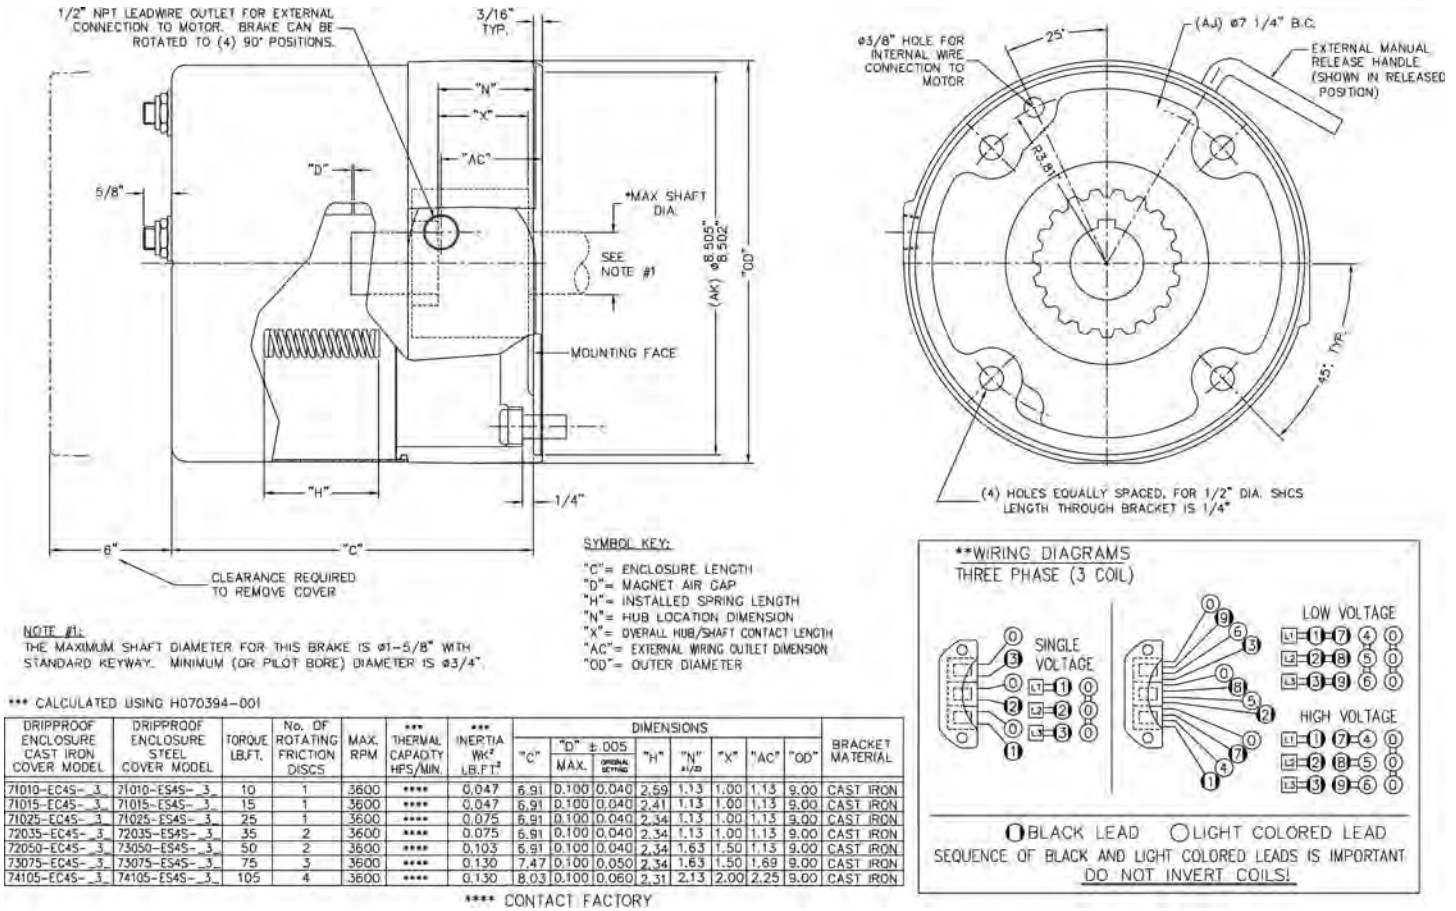

Figure 1 - Brake Outline
(See Figures 1, & 2, Table 1)
1. Remove hub (99) from brake and position on motor shaft with key according to dimension "N" per figure 1. Stamped part number on hub should face away from motor. Tighten hub set screws with 18 lb.ft. torque.
2. Remove temporary cover nut and cover (67). Set cover aside. Discard temporary nut.
4. Bolt brake to motor "C" face with four socket head cap screws. See Figure 1 to help in determining proper bolt length. Final bolt thread pitch, length and mounting torque is dependent on the material and depth of the threaded holes in the mounting face.
5. Connect coil leads per appropriate wiring diagram in Figure 1 and replace cover (67).
6. Use provided nylon locking nuts (71) to secure cover (67).
Before air gap "D" reaches .100", adjustment is required. Any delay in adjusting the magnet air gap will result in eventual loss of torque. Refer to Fig. 1, 2 & 3.
The magnetic disc brake is factory set for rated static torque. The brake can be adjusted to reduce torque which increases stopping time. Do not attempt to adjust brake for higher torque, as this will cause premature coil burnout. (Refer to Fig. 1 & 2)
5. **Re-assembly of electromagnet assembly (15) Refer to Fig. 1 & 2.** Reinstall pressure plate (32) by rotating clockwise to engage both torque spring bolts (28) into slots in brake bracket (1). Replace all nuts, washers, and springs (42, 43, & 44). Nut (44) on the pivot post (17) should be adjusted, so the distance from the bottom of the pressure plate (32) to the top of the brake bracket (1) is 7/16". Reinstall magnet assembly (50A) and install nuts and washers (59, 60, & 61). Nut (61) should be torqued to 20 lb-ft.
7. Reset spring height according to brake model number in Fig.1 from the top of the spring (42) to the bottom of the pressure plate (32).
2. Remove cover locknuts/seals (70 & 71) and cover (67).
4. Replace with new magnet assembly (50A) and install nuts and washers (59, 60, & 61). Nut (61) should be torqued to 20 lb-ft.
5. Place coil lead wires around mounting bracket (1) to the same side as the wire outlet position or internal wire outlet. Connect coil lead wires per Fig. 1.
9. Replace cover (67) and cover locknuts/seals (70 & 71). Tighten nut (71) to 30 lb-in. Reconnect power.